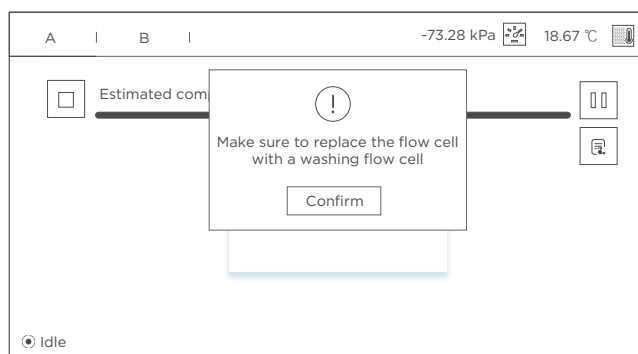

Figure 13 MGIDL-T7RS flow cell loading complete status window
21. Tap **Confirm** button as shown in *Figure 13 on Page 53*, install the washing flow cell onto the flow cell stage and press the flow cell attachment button.